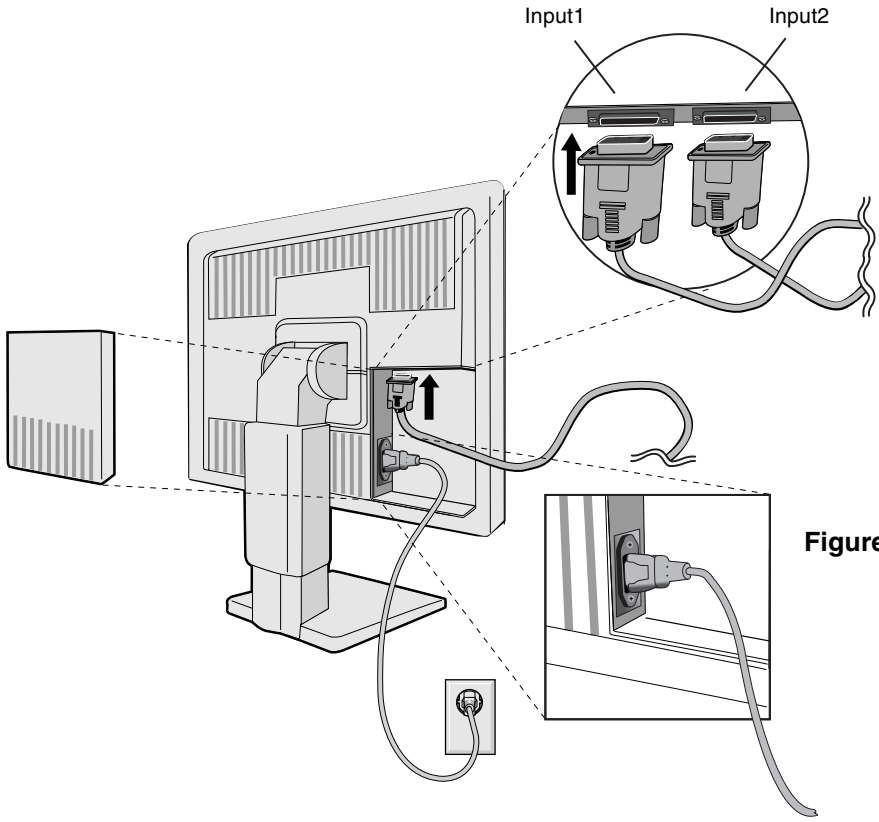

Figure C.1
3. Remove connector cover. Connect the DVI signal cable to the connector on the back of the monitor. Place the video signal cable (**Figure C.1**).